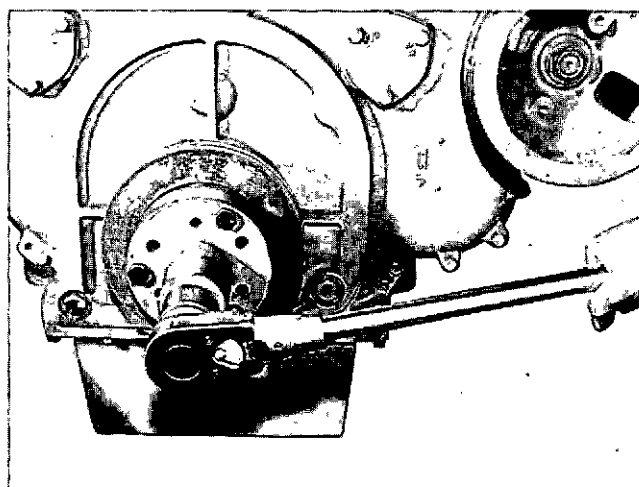

Fig. 0-28, V40061, Pulling crankshaft flange
4. Use ST-887 Crankshaft Flange Puller, or suitable puller, to pull flange from crankshaft. Fig. 0-28.